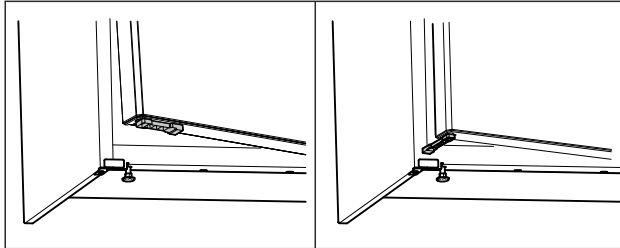

Fig. 70 *
- ▶ Turn door opening limiter by 90°. (see Fig. 70) *